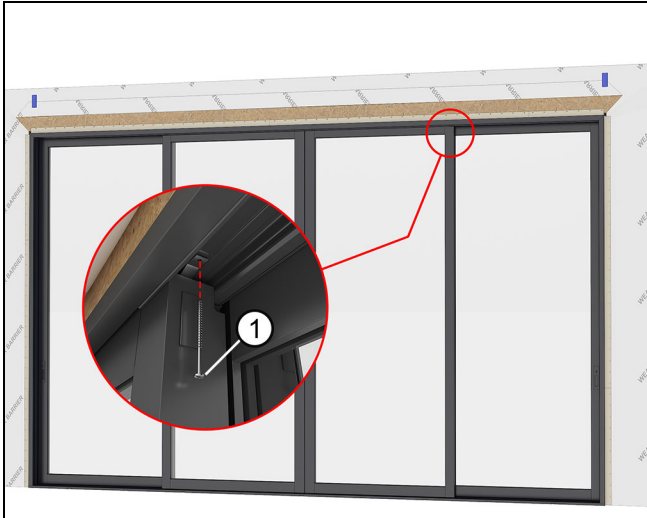

Figure 173 XOOX
14. Bend the top stationary bracket of the (C) stationary panel up against the head jamb, pre-drill a 3/16" hole using the bracket as a template. Fasten through the bracket into the head jamb with a #10 x 3" installation screw. Shim as needed taking care not to bow the head jamb. See Figure 173.